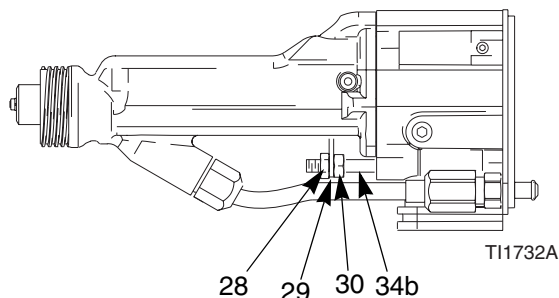

Fig. 30. Actuator Arm
2. Remove the air cap, page 37. Remove the gun shroud (2).
3. Remove the jam nut (28), actuator arm (29), and adjustment nut (30). See FIG. 30..
1. Install the adjustment nut (30), actuator arm (29), and jam nut (28) onto the piston rod (34b). Note that the jam nut (28) has a slightly larger hex and a thinner profile than the adjustment nut (30). See FIG. 30. on page 42.